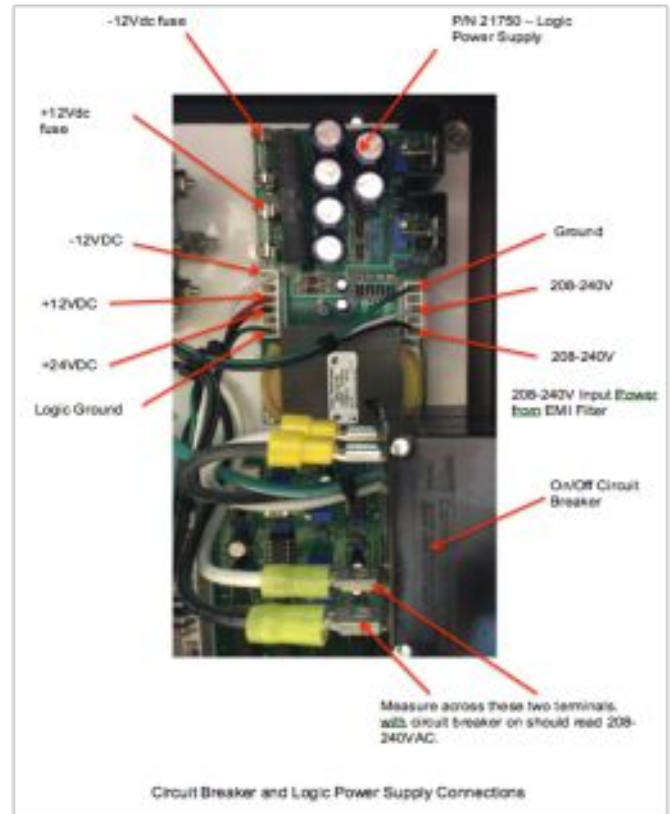

Fig. 22
7.2.3 Check the -12V fuse on the +/- 12V logic power supply located in the top right corner of the unit. . (See Fig. 22). If the -12V supply is bad the “ramp to power” function of the control circuitry will not work, causing the thyristor/diode module to short out and the semiconductor fuse to blow. Measure the voltage at the -12V DC pin on the connector shown by attaching a voltmeter between -12V and logic ground. It should read between -11.8 and -12.2Vdc.